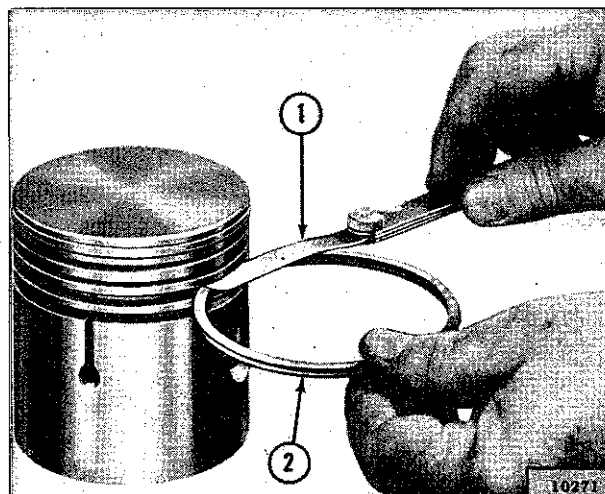

FIG. 41—CHECKING PISTON RING SIDE CLEARANCE
**g.** Check width of piston ring grooves using a new piston ring and a feeler gauge as shown in Fig. 41.